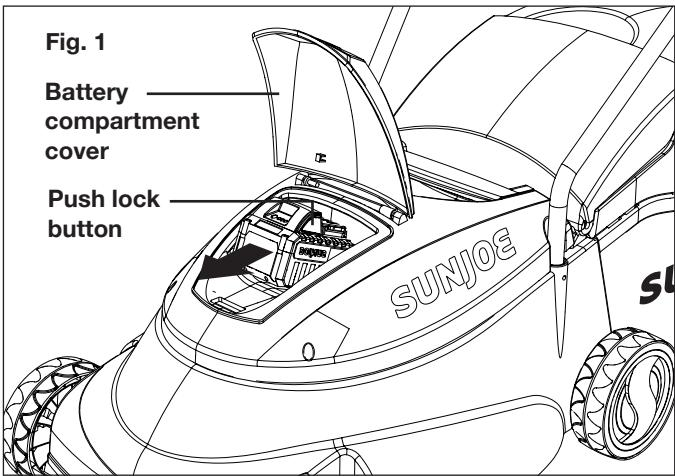

Fig. 1
1. Open the battery compartment cover, and push the push lock button on the battery to pull the battery out from the battery compartment (Fig. 1).